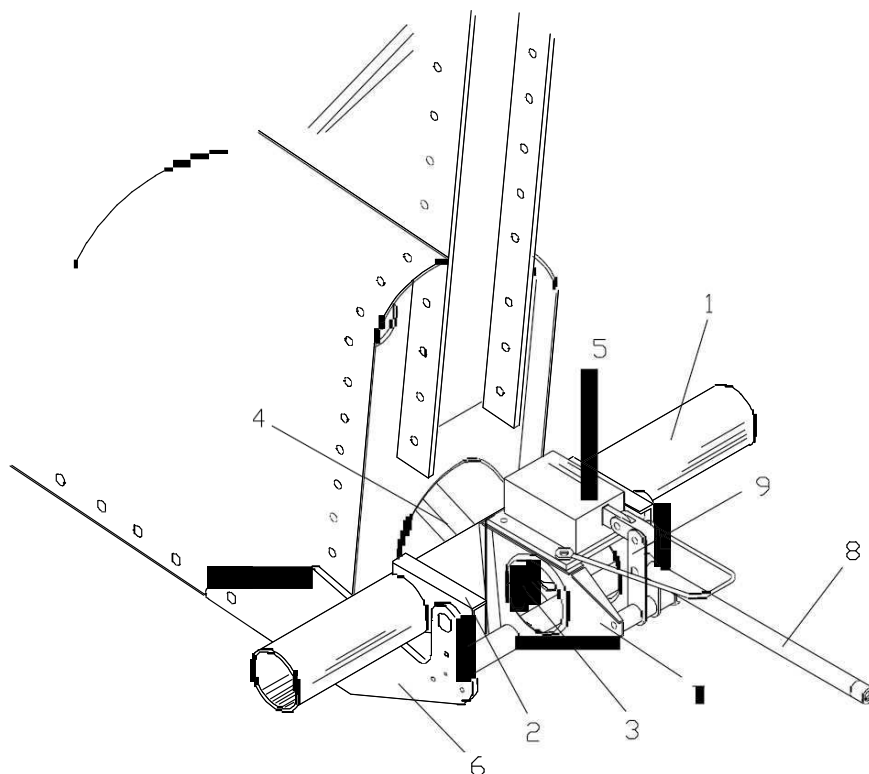

Figure 4-7 Stabilator control
The aft bellcrank assembly (see fig. 4-7) consists of a steel tube (1) with welded horn assembly (2), attachment for stabilator control shaft (3) and balanced weight bellcrank (4). Counterweight is located at the end of a prong bolted to the torque tube and entering tail cone through the tail-frame cutout.